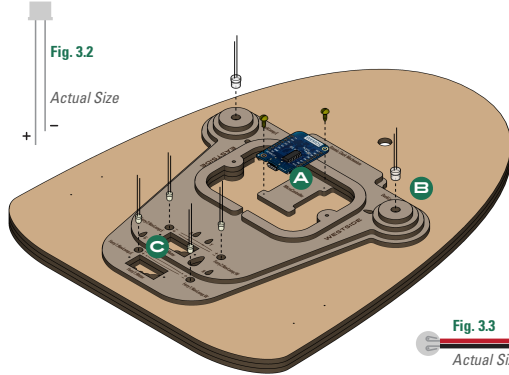

Fig. 3.3
- CREASE tinned wire ends around each foot, red to positive, black to negative. Slide the 'hooks' down so they sit just above the LED. (Fig. 3.3)